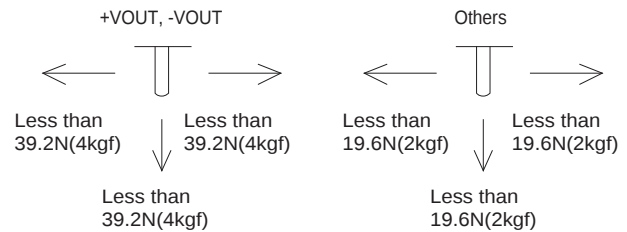

Fig. 6.1 Stress to the pins
■When too much stress is applied to the pins may damage internal connections. Avoid applying stress in excess of that shown in Fig. 6.1.